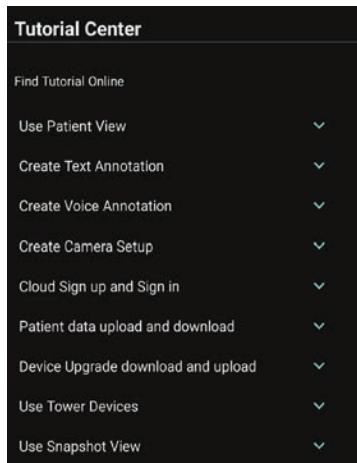

Figure 60. Tutorial Center Menu
3. Once the Tutorial Center screen displays, tap the Tutorial to display (Figure 60).